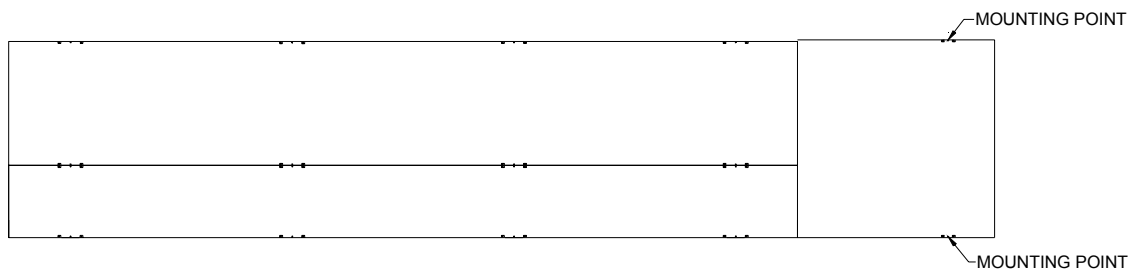

Figure 6 Side Sponsor Panel Mounting Points
4. Clamp the sponsor panel to the scoreboard post at the two mounting points using the same type of hardware used on the scoreboard sections. Figure 6 shows the mounting points for the optional side sponsor panel.